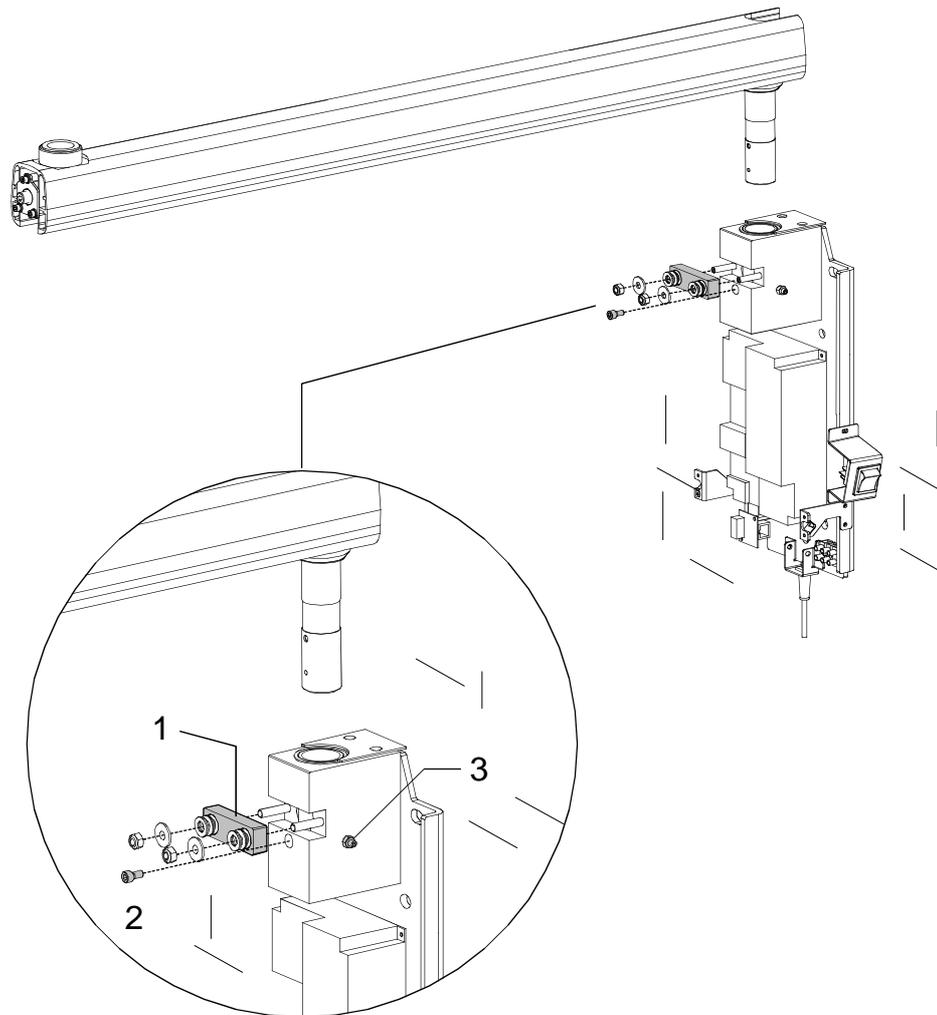

Figure 6-4
2. Assemble the extension arm frictioning mechanism block (**1** - Figure 6-4); this frictioning mechanism (code 6159300100) is included in the mounting hardware packaging.
3. Assemble the arm rotation stop screw (**2** - Figure 6-4) in the hole present on the shaft; this screw (code 2100010600) is included in the mounting hardware packaging.
4. Tighten the two lateral grubs (**3** - Figure 6-4 - one on each side) ensuring that they block the arm rotation without interfere with the extension arm pin.